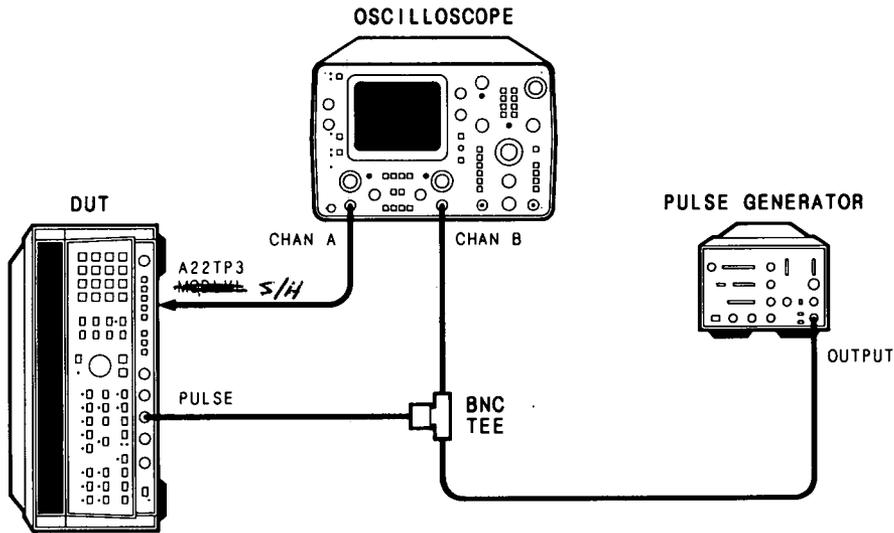

Figure 5-69. Bias Sample and Hold Adjustment Setup
23. Connect the equipment as shown in Figure 5-69.